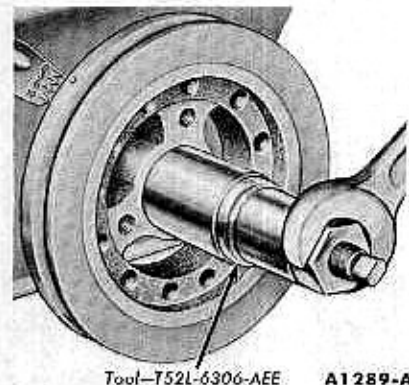

FIG. 48—Crankshaft Damper Installation
7. Line up the damper keyway with the key on the crankshaft. Install the damper on the crankshaft (Fig. 48).